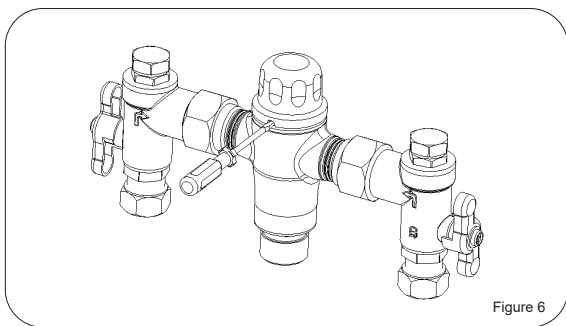

Figure 6
1. Using a small flat bladed screw driver lever the protective cover off the valve (Figure 6). (over page)